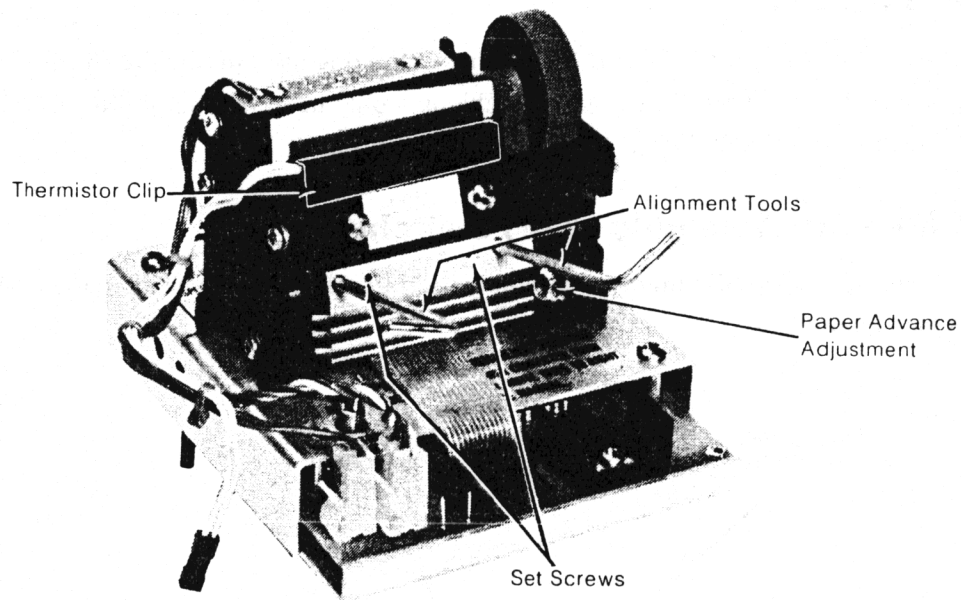

Figure 3-6 Print Head Alignment
- Using the alignment tools (HP part number 8710-0693) as shown in Figure 3-6, move the print head up or down to get the best overall print quality.